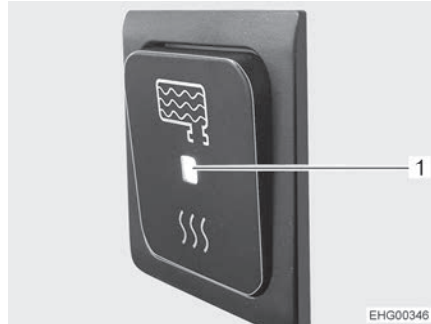

Fig. 114 On/Off switch, switched on
If the On/Off switch of the control has been switched on (Fig. 114), the waste water tank heater switches on automatically as soon as the external temperature drops below 0 °C. This protects the waste water tank from frost.
- Press lower part of the On/Off switch. The LED indicator (Fig. 114,1) is lit.
- Press upper part of the On/Off switch. The LED indicator (Fig. 114,1) goes out.